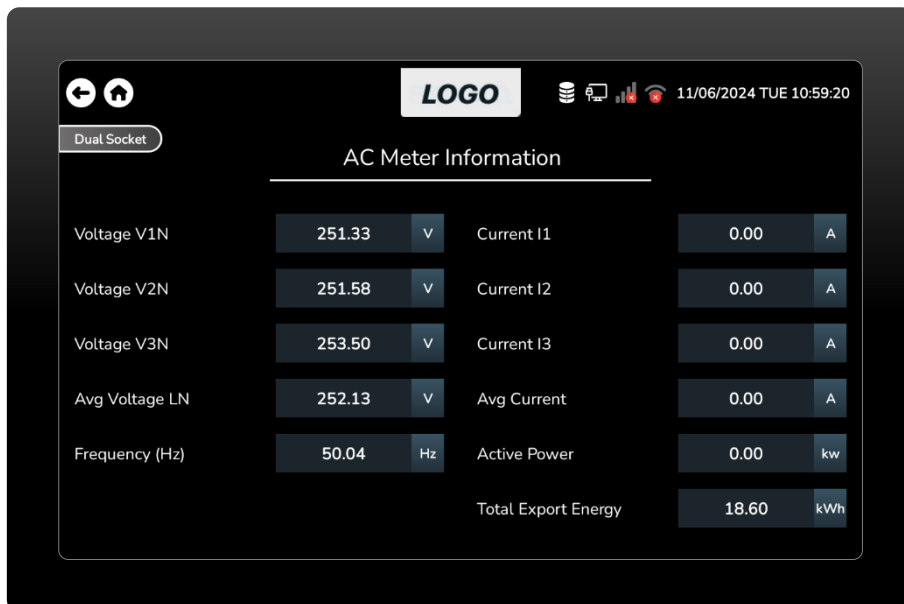

Figure 94 AC Meter Information Screen.
- This is the AC meter information screen, where the user can view information such as voltages, average voltage, frequency, currents, average current, active power, and total export energy. (Figure 94)